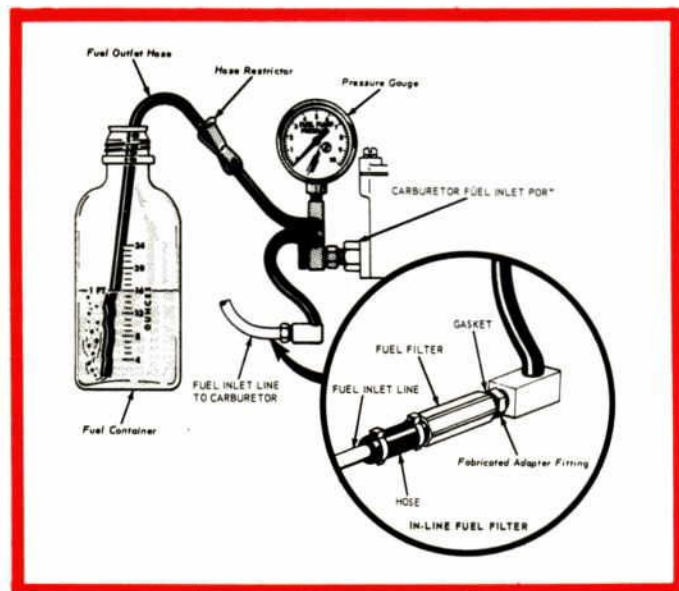

Figure 15—Fuel Pump Tests
2. If no gas is ejected in test (1), check the fuel pump for Pressure and Capacity.
- Connect a pressure gauge, petcock and flexible hose, (Figure 15) between the carburetor inlet connector and the fuel inlet line connector.